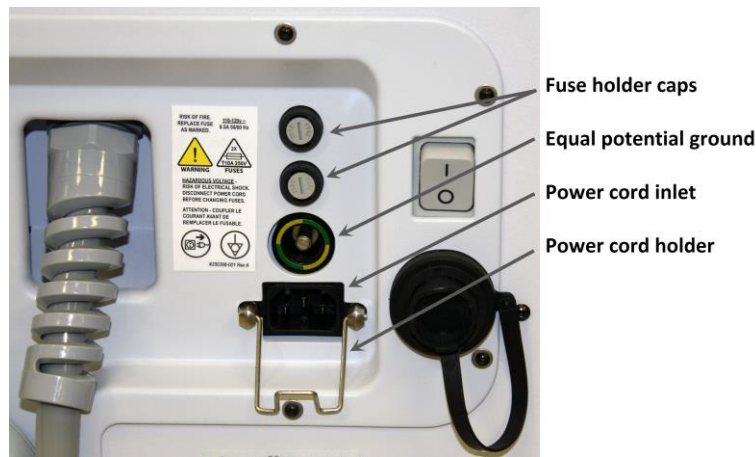

Figure 4-2. Control Unit rear cover
1. Use a flat screwdriver to remove the fuse holder caps (Figure 4-2).
4. The cooling system vent should be cleaned or inspected periodically to ensure the cooling vent is not blocked and to ensure the control unit has proper airflow to the control unit cooling unit (Figure 4-2).